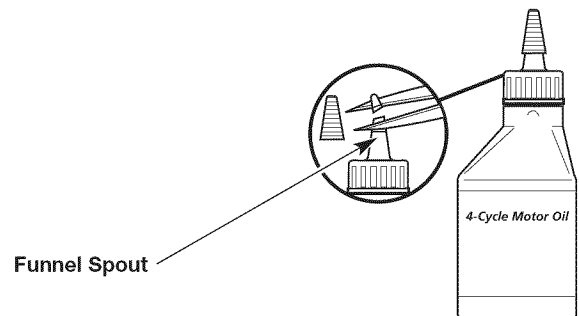

Fig. 6
- Remove the cap from the oil bottle. Cut the tip off the funnel spout (Fig. 6).